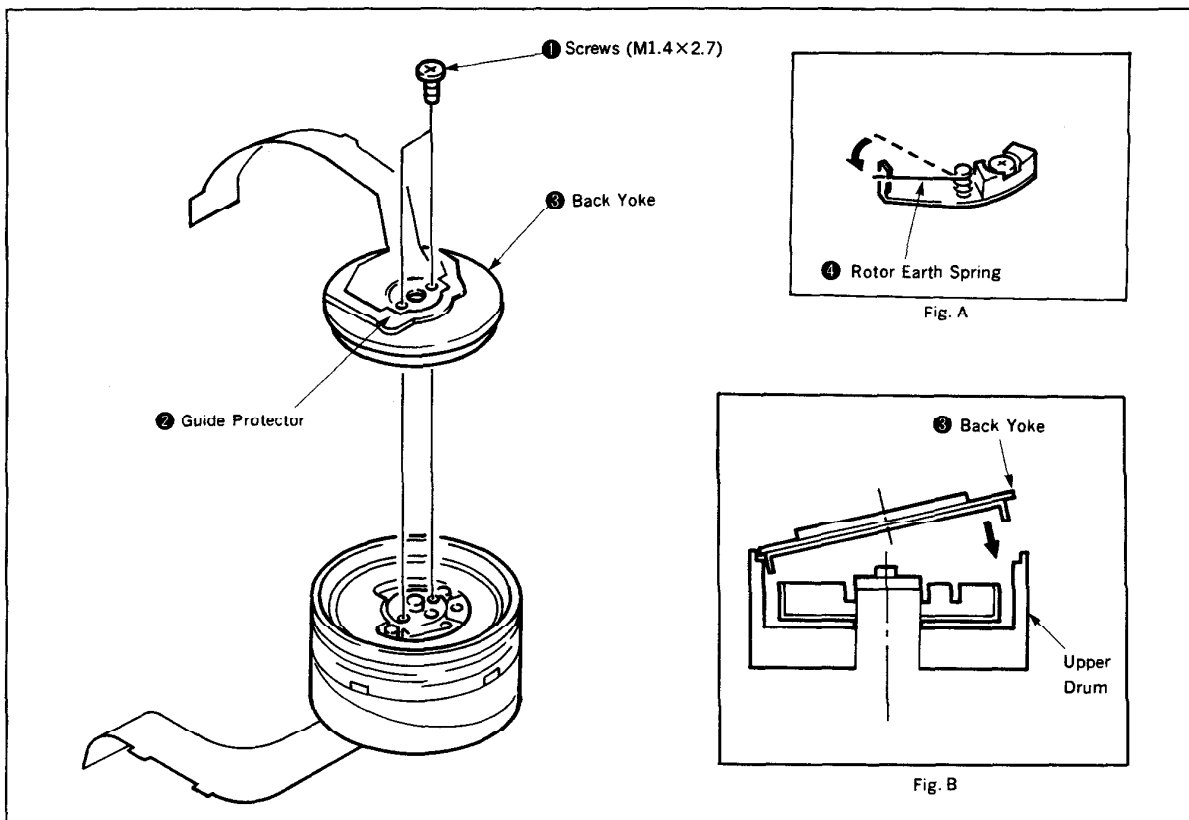

Fig. 44
- Remove the two screws ❶. (Fig. 44)
- Hold the outlet (base) of the guide protector ❷, lift it up obliquely. In that state, hold the outer figure of the back yoke ❸ and remove it. (Fig. 44)
- As shown in Fig. A, set the rotor earth spring ❹ around spring hook. (Fig. 44)
- Hold the outer figure of the back yoke ❸, put it on the inner step of the upper drum and insert the other side slowly. (Fig. B in Fig. 44)
- Tighten the two screws ❶. (500g·cm) (Fig. 44)